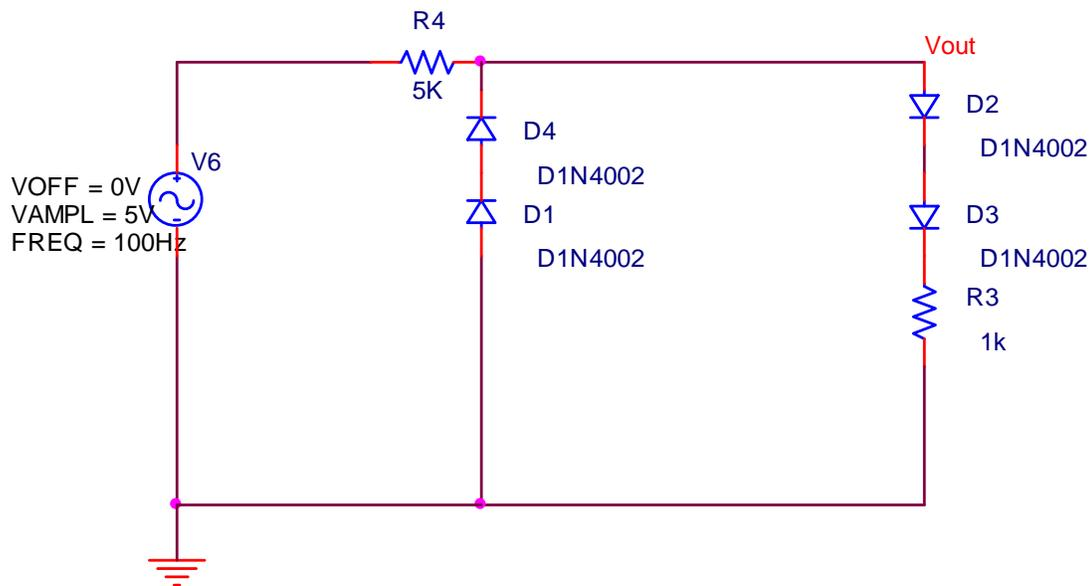

Figure: 3\_1
1. Simulate the following circuit (Fig 3\_1) using Orcad Capture and PSpice.